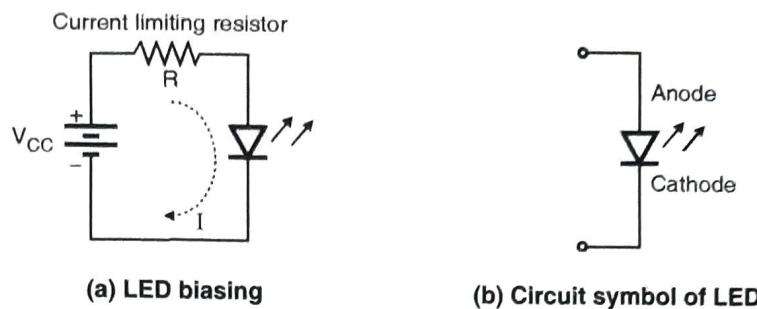

Fig. 3.10.2
- An LED emits light when electrical energy is applied to it. LED is a two-terminal device. The terminals are named as anode (A) and the other as cathode (K).
- For proper operation, it is necessary to forward bias the LED as shown in Fig. 3.10.2(a) and the symbol of LED is shown in Fig. 3.10.2(b). This shows that the symbol is same as that of a p-n junction diode with two arrows indicating that it emits light.
- One of the popular methods of LED construction is to deposit three semiconductor layers on the substrate as shown in Fig. 3.10.2 (c).